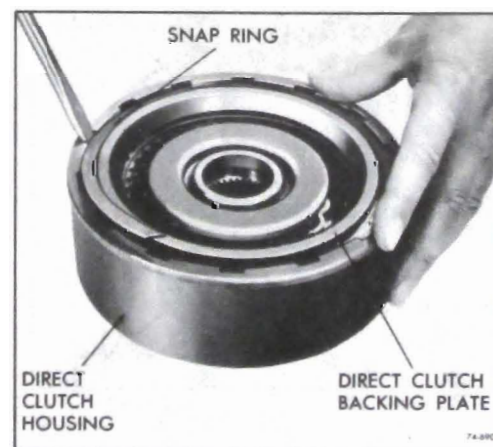

Figure 76-690
10. Install the backing plate retaining snap ring. See Figure 76-690.